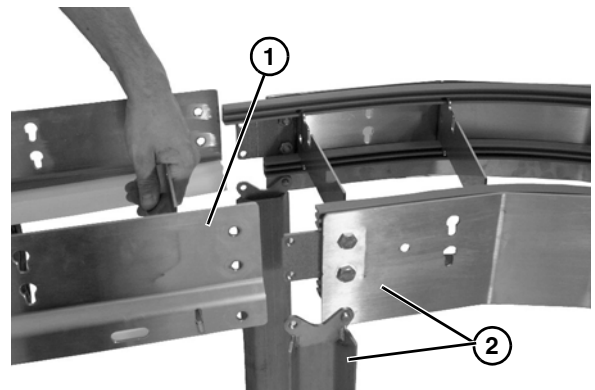

Figure 43
4. Lift up on straight section (**Figure 43, item 1**) and remove from curve section and conveyor stand (**Figure 43, item 2**). Be sure to support free end of straight section once removed.